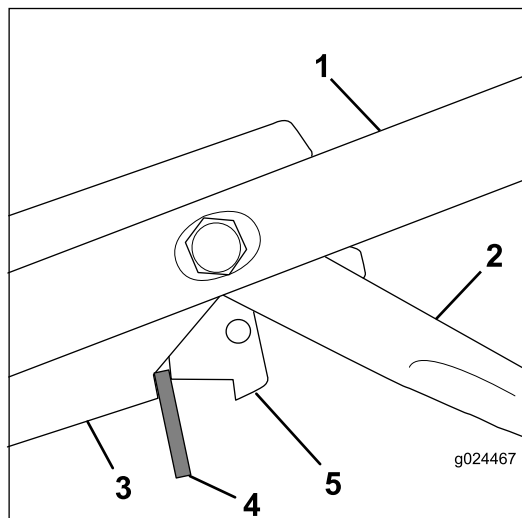

Figure 28
3. Insert a 8 mm (5/16-inch) thick spacer between the blade-brake-control lever and the control bracket on the handle (Figure 28).